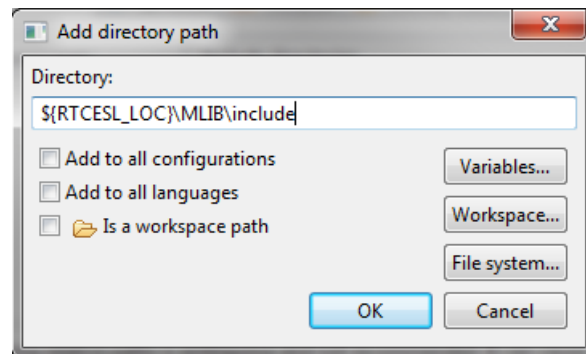

Figure 1-23. Library include path addition
28. Click the Add... button on the right, and a dialog appears. See Figure 1-23.